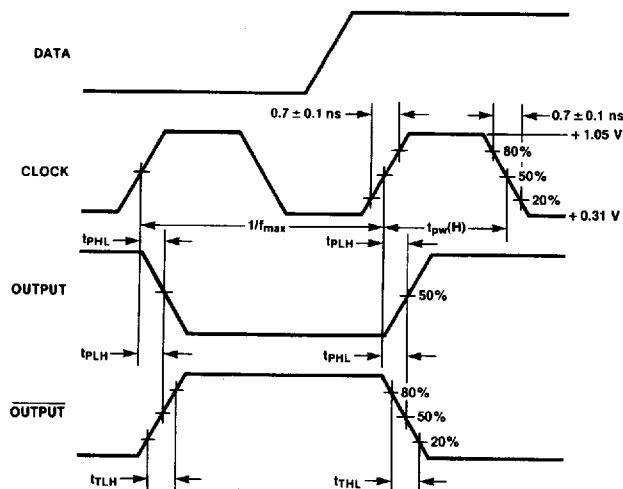

FIGURE 3. Propagation Delay (Clock) and Transition Times
| t pw (H)                  | Pulse Width HIGHCP n , CP C , CD n ,SD n , MR, MS | 2.00                 |      | 2.00                   |      | 2.00                   |      | ns    | Figures 3 and 4                       |                 |  |
| t pw(H)                   | Pulse Width HIGHCP n , CP C , CD n ,SD n , MR, MS | 2.00                   |      | 2.00                   |      | 2.00                   |      | ns    | Figures 3 and 4                       |                    |
| $t_{pw(H)}$            | Pulse Width HIGH$CP_n, CP_C, CD_n,$$SD_n, MR, MS$                   | 2.00                 |      | 2.00                 |      | 2.00                  |      | ns    | Figures 3 and 4    |         |                 |